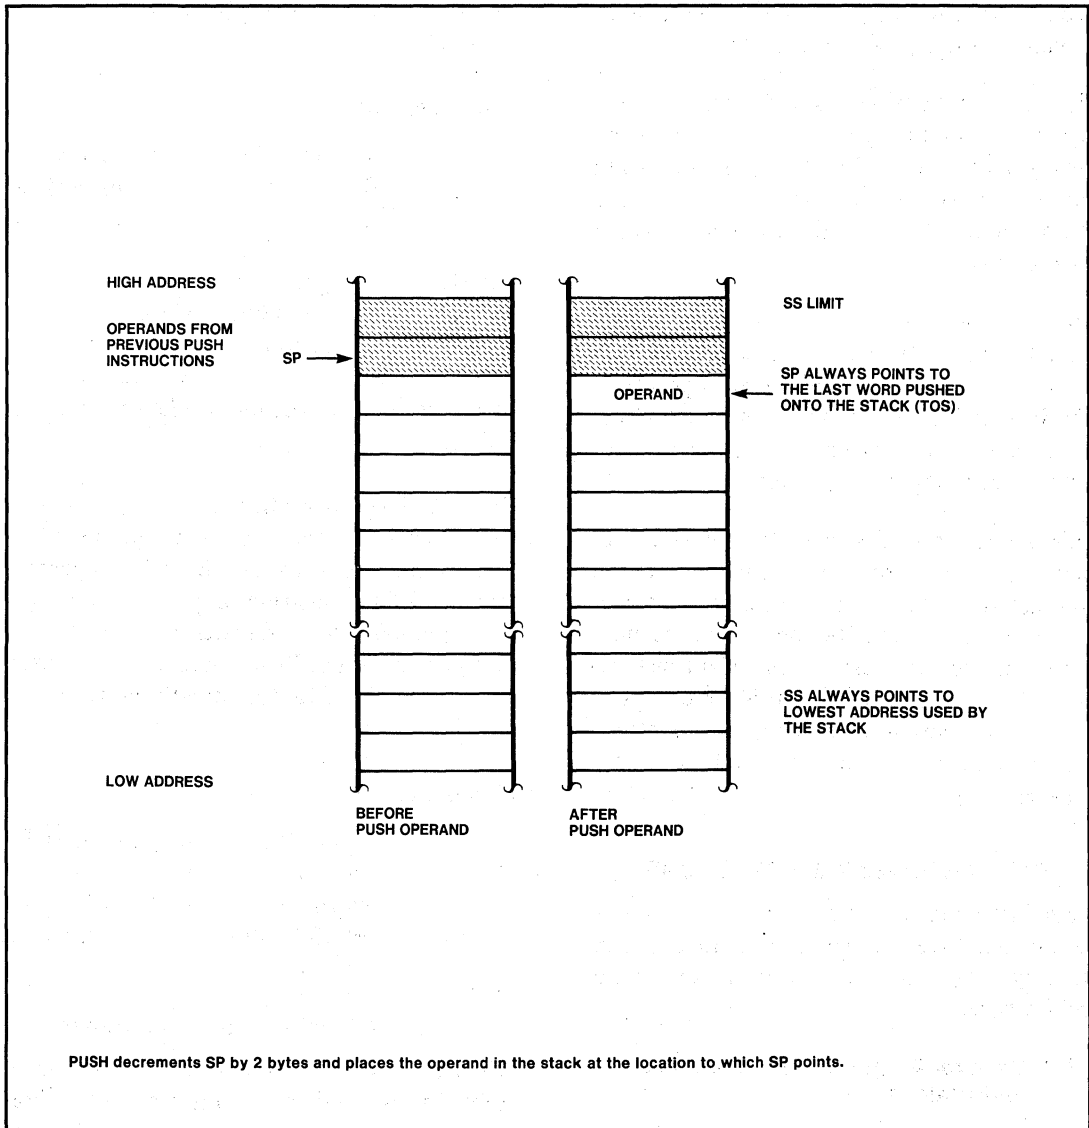

Figure 3-1. PUSH
PUSH (Push) decrements the stack pointer (SP) by two and then transfers a word from the source operand to the top of stack indicated by SP. See figure 3-1. *PUSH* is